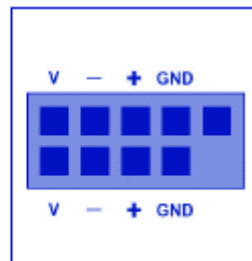

Figure 8
(16) Some cases support front USB. Figure 8 shows the common wiring for motherboard USB pin header. **Please check carefully your specific layout for the USB header, incorrect wiring may damage your motherboard.**
(17) You have now completed Motherboard bundle install. You may add any further hardware you require before installing your system.